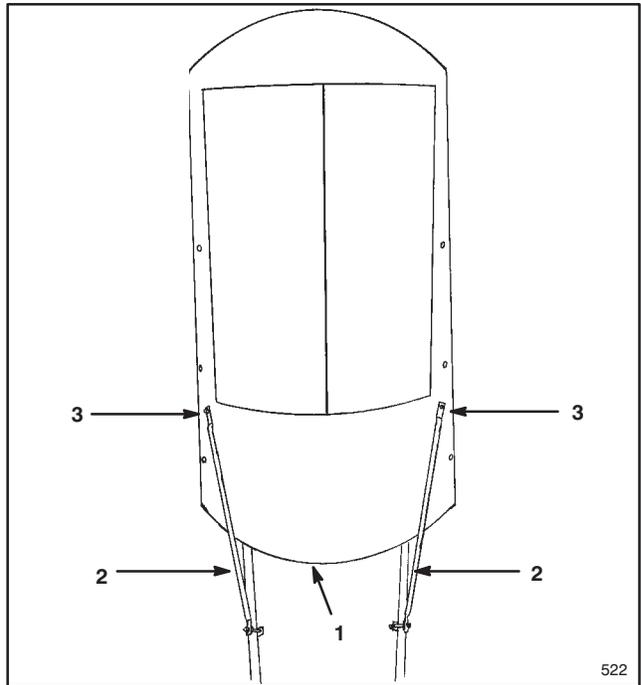

Figure 7
3. Place the vinyl cover over the frame (Fig. 7). Close the snaps in order to cover the rear of the framework.
4. Locate the end of the brace with the smallest hole. Place the flat side of that end over the 1" bolt protruding from the snow cab frame (Fig. 7). Add a $\frac{1}{4}$ " locknut. **DO NOT TIGHTEN THE LOCKNUT.**
5. Place two U-clamps ($\frac{7}{8}$ " for CCR 1000™ & CCR 2000® or $1\frac{1}{8}$ " for 521/3521/724V) on the handle bars below the controls (Fig. 7 & 8). See following chart for the correct position of these U-clamps.